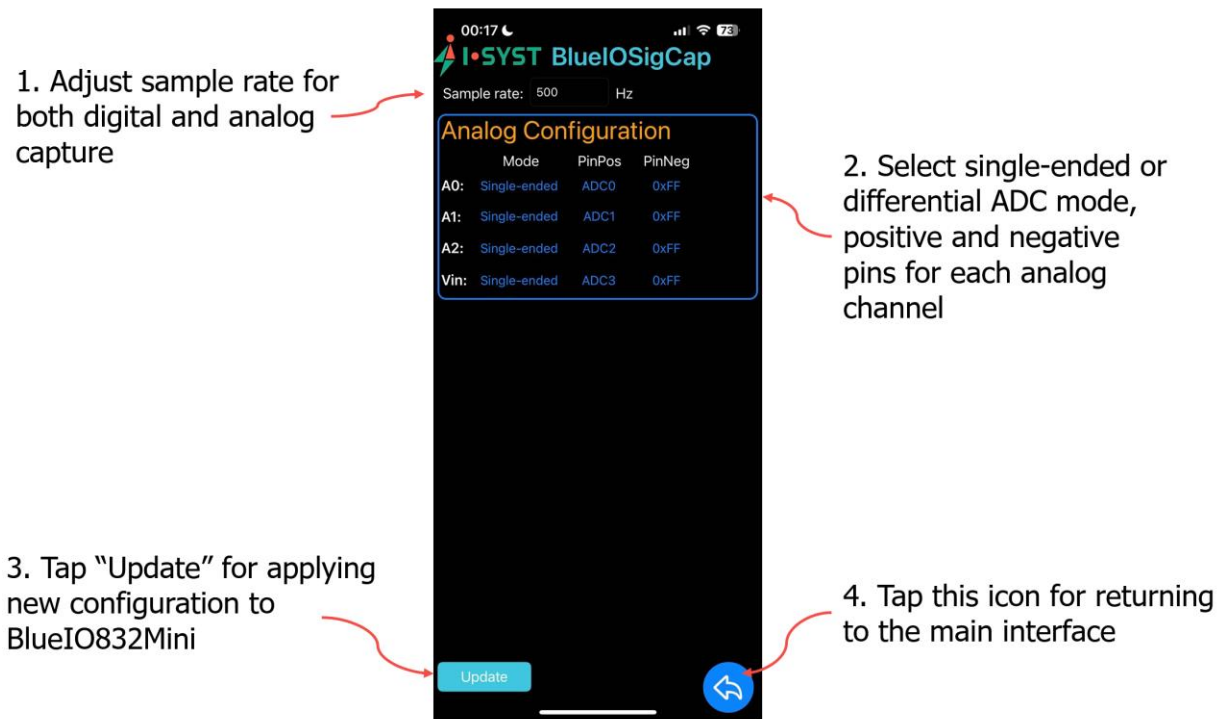

Fig. 16. Setting menu for sample rate and analog configuration
- (viii) To configure the new sample rate and analog configuration, the user taps “Setting” as shown in Fig. 16.